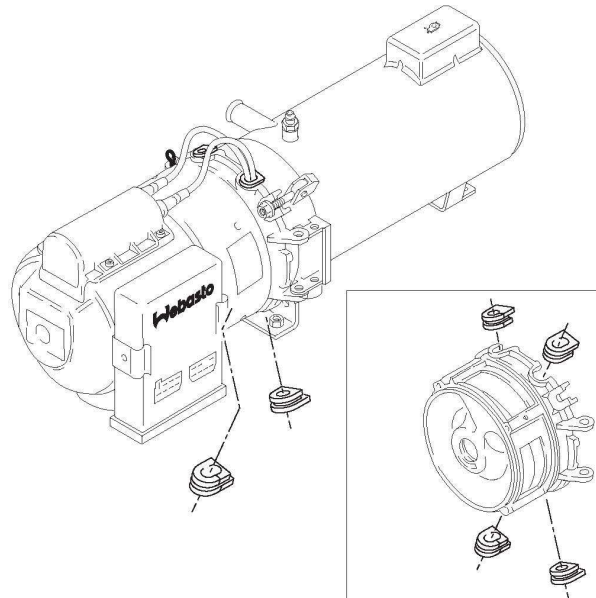

Figure 5.
8. Once the burner head has been re-installed, make sure that all four grommets (2 right and 2 left) are in place. To minimize combustion air leakage, ensure grommets are fitted tightly around wire cables and fuel pipes. (see figure 5).